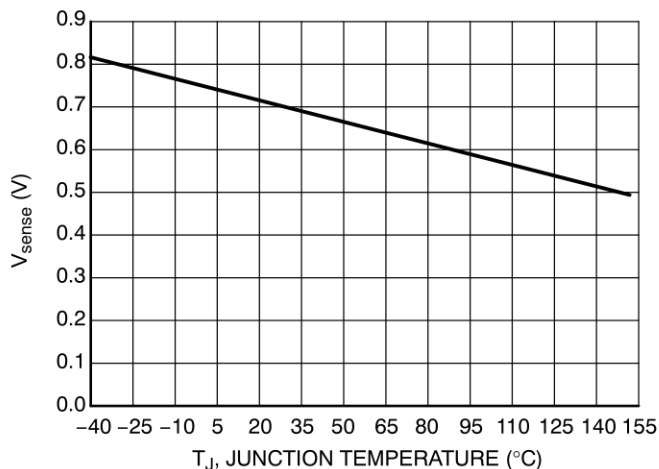

Figure 2. V_{sense} vs. Junction Temperature
- $R_{ext} = V_{sense} / I_{LED}$ (see Figure 2)